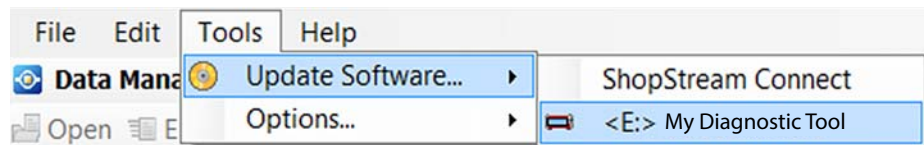

Figure 9-4
1. Select **Tools > Update Software > (diagnostic tool type - e.g. ETHOS Edge, MODIS Edge, SOLUS Edge, etc.)** from the Menu bar (Figure 9-4).